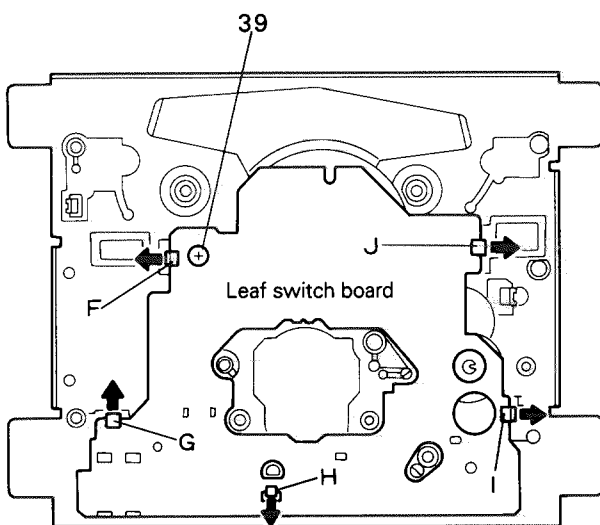

Fig. 7-29
■ **Leaf switch board** (Fig. 7-29)
1. Remove a screw (39) retaining the leaf switch board from the chassis basis.